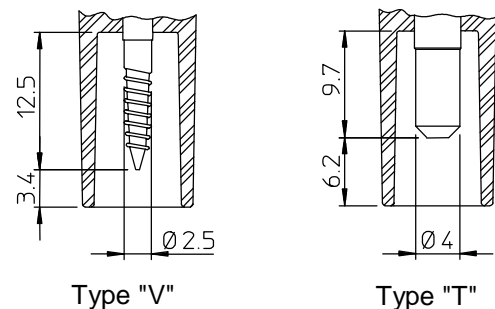

Fig. 8
- V: screw fixing system (Fig. 8);
- T: fixing system with terminal Ø 4 (Fig. 8);
The connection of high voltage cables can be of two types, according to the terminals used inside the isolators: connections can be carried out by means of a screw or a cylindrical terminal with 4 mm diameter, as shown in Fig. 8. All connectors, including the ones complete with cable, can be supplied on request.